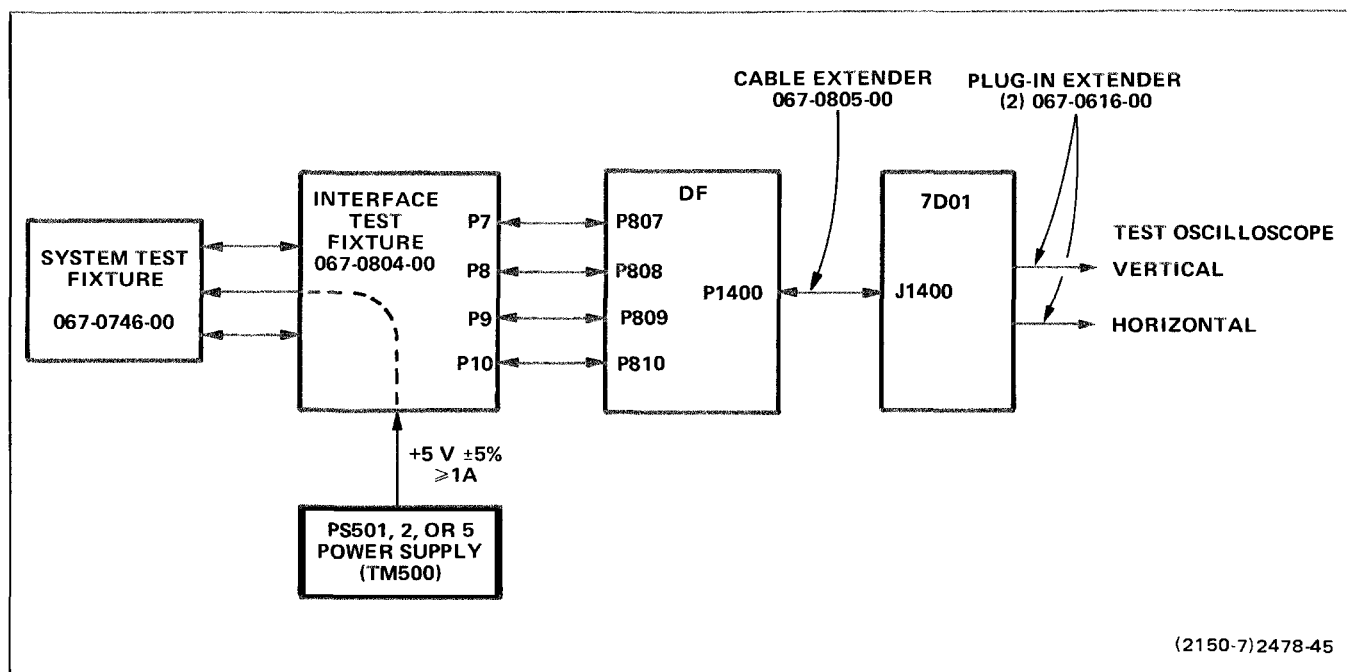
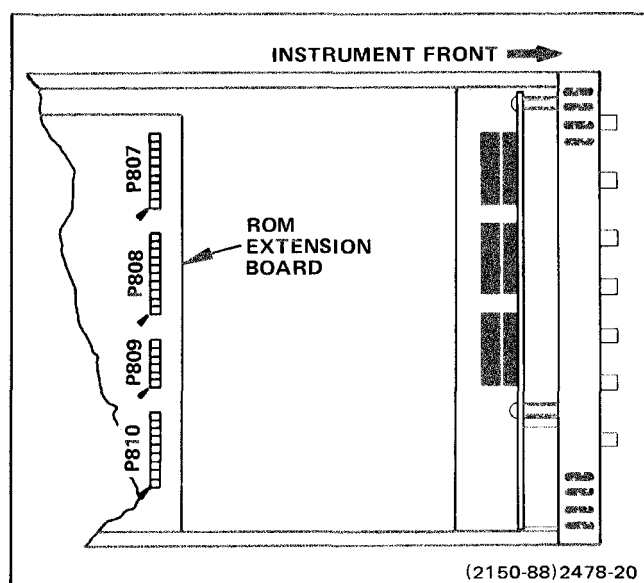

Figure 6-1. Test equipment setup for troubleshooting the DF Digital Formatter.
Figure 6-2. Partial view of ROM Extension board. Shows pin location and indexing for connection to the Interface Test Fixture.
a. Connect test equipment as shown in Figure 6-1. The Interface Test Fixture is connected to the DF ROM Extension circuit board as shown in Figure 6-2.
c. Press the STOP button; the ABA (address bus available) indicator should light. If the ABA indicator does not light, press the RESTART button. If the ABA indicator still does not light, recheck the test equipment setup illustrated in Figure 6-1. Also, check the DF clock circuits (01, 02), reset circuit, power supplies, and the Halt line (pin 2 of U264). Check that the BA output (pin 7 of U264) is not excessively loaded or shorted (low). If the ABA indicator